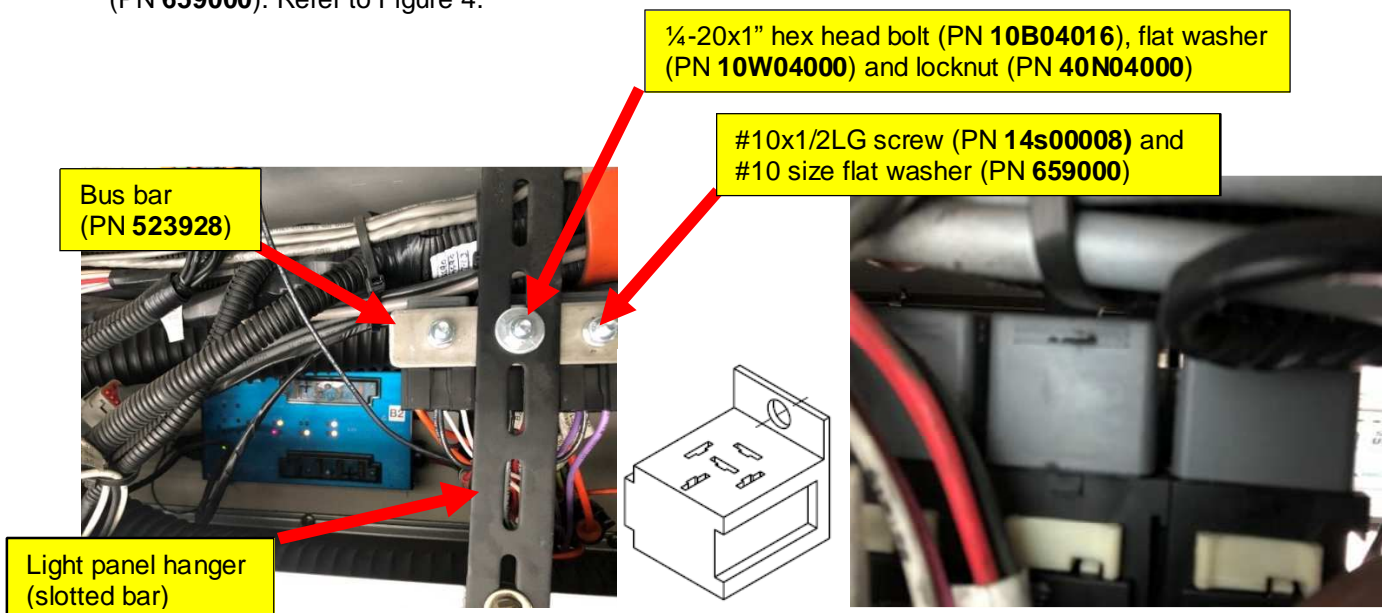

Figure 4: Secure relays to slotted bar
10. Mount bus bar (PN **523928**) to the light panel hanger (slotted bar). Use ¼-20x1" hex head bolt (PN **10B04016**) with flat washer (PN **10W04000**) and locknut (PN **40N04000**). Refer to Figure 4.
11. Secure the relay holders to the bus bar by using #10x1/2LG screws (PN **14s00008**) and #10 size flat washers (PN **659000**). Refer to Figure 4.